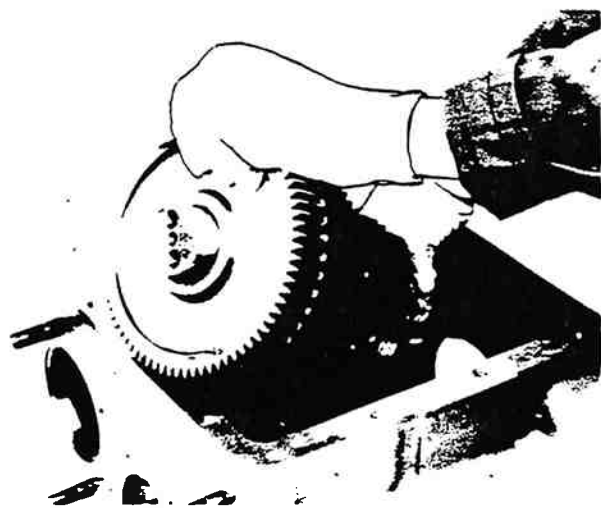

Figure 13-95. Positioning Left Countershaft.
1. Place the left countershaft assembly with the 47-tooth PTO gear into position in case, small end through the left rear countershaft bore. Do not install bearings at this time (figure 13-95).